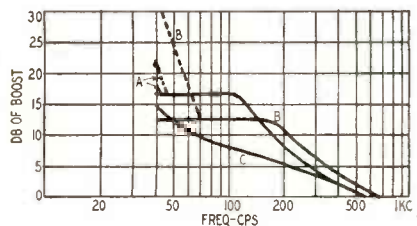

Fig. 7—Compensation for playback 30 db below original performance level.
These curves prove at least one thing: the amount of compensation cannot be fixed even for a specific playback level. It may differ for the different passages in any one musical composition. For example, if we are playing back at a listening level 30 db below performance level, as in Fig. 7, and we compensate for the maximum-level curve (A), the bass of the average-level passages (curve B), will be a bit heavy in the 70-100-cycle region, and a bit thin in the 200-400-cycle range; a loud bass-drum passage would be disproportionately loud.
The dashed lines in Figs. 5 to 9 represent the compensation required if we are not to lose some parts of the music completely. For instance, if curve B is attenuated 30 db and equalized as shown in Fig. 7, frequencies from 72 cycles down will be below the "Hearing-Contour Curve" and will not be heard unless boosted as indicated by the dotted line. This much equalization of course, would make a burst on the